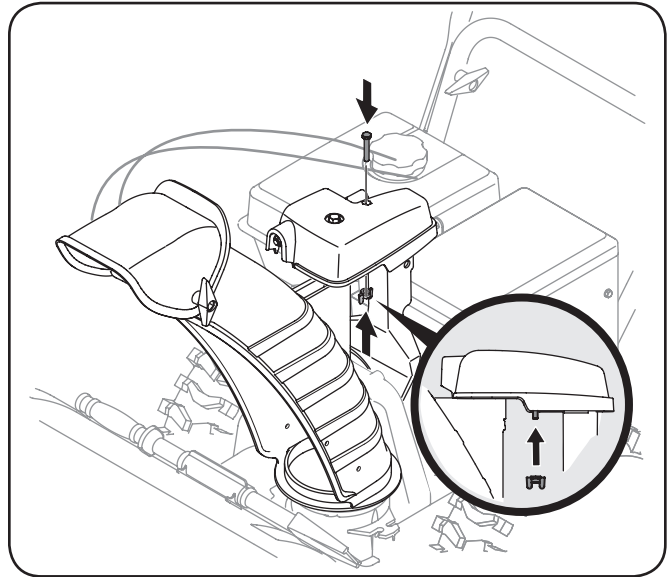

Figure 3-5
5. Finish securing chute control assembly to chute support bracket with wing nut and hex screw removed earlier. See Figure 3-5.